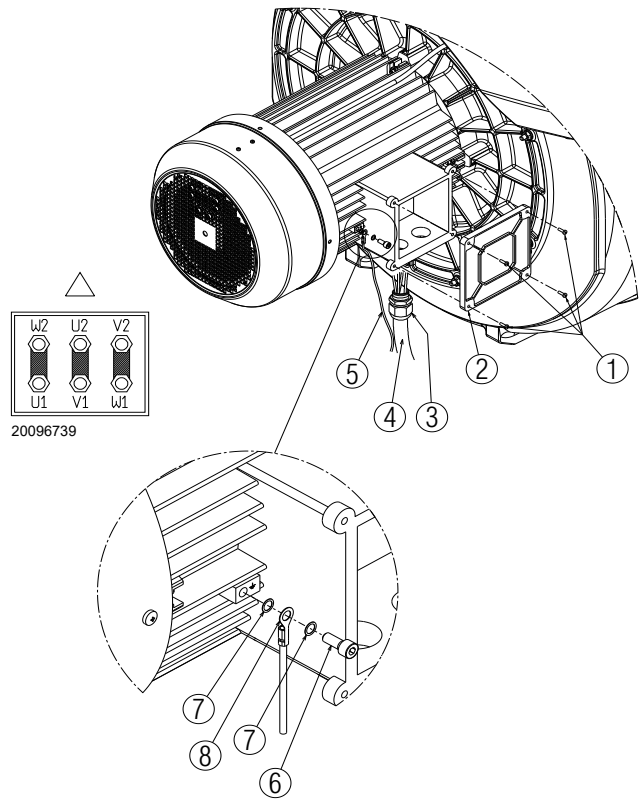

Fig. 33
- to access the motor casing, loosen the four screws 1)(Fig. 33) and remove the cover 2).
- Make a final visual check, then close the motor casing by tightening the 4 screws 1)(Fig. 33).